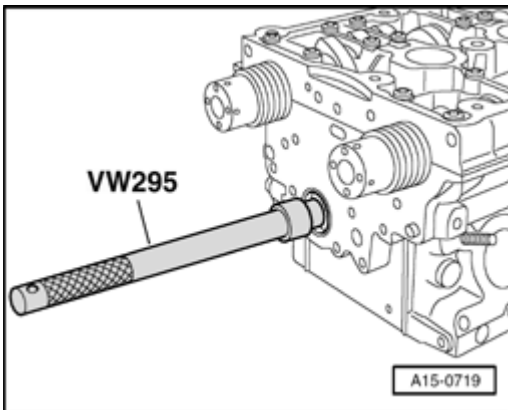

Fig. 205: Sealing Cap (Core Plug) In Cylinder Head, Driving In
- If a cylinder head is replaced, a cap must be driven in on the front part of the respective head. See Fig. 205.
- Sealing cap (core plug) in cylinder head, installing. See **Fig. 205**